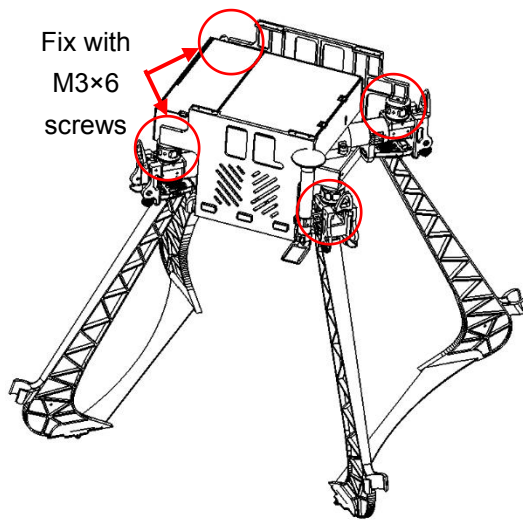

Figure 7
3) Fix the tank component on rubber connecting column of fuselage with M3 × 6 screws as figure 7.
- 3) According to the Figure 7, install CCW arm on M1 and M5, install CW arms on M2 and M4, install CCW Arm with LED on M3, install CW Arm with LED on M6.